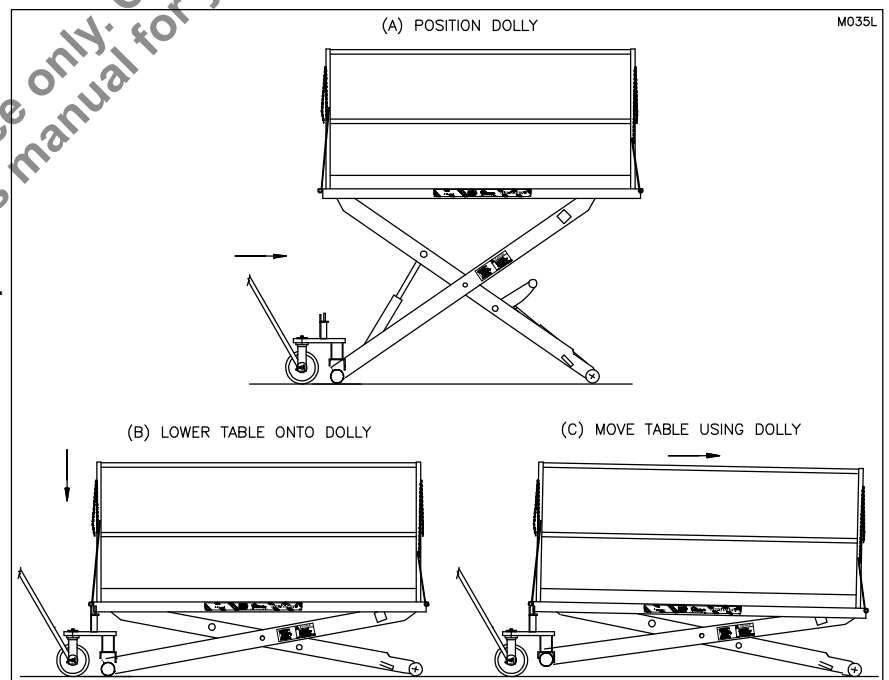

Figure 10: Steps to Move the Dock Lift using the Portability Dolly
11. Semi Portable Operation Procedure: (See “Figure 10: Steps to Move the Dock Lift using the Portability Dolly” on page 11).